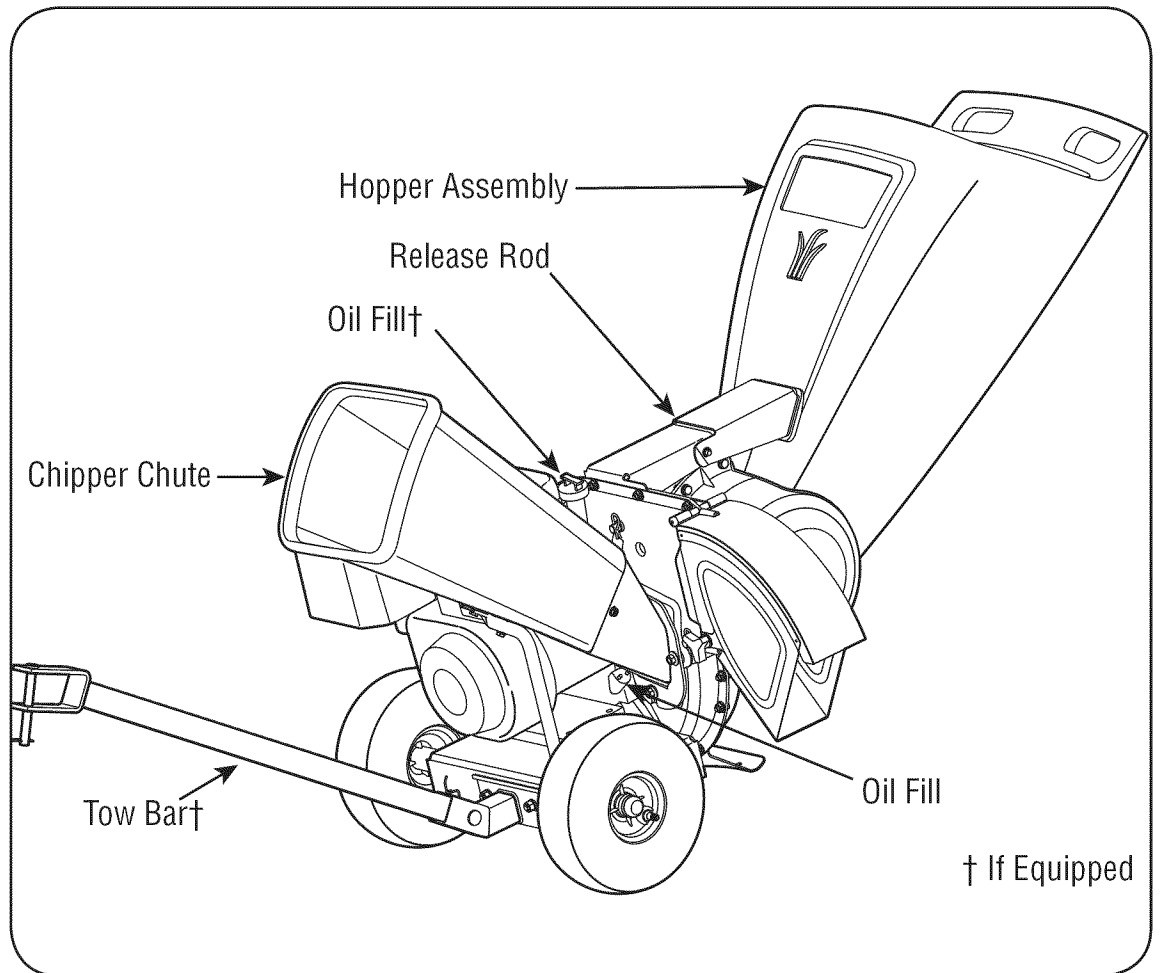

Figure 9
Allows twigs and small branches up to 3" in diameter to be fed into the impeller for chipping. See Figure 9.
Allow leaves and small branches up to 1/2 diameter to be fed into the impeller for chipping and shredding. Material can be raked into hopper assembly by lowering the hopper assembly. See Figure 9.
The release rod is located on the impeller bracket assembly and it is used to release or lock the hopper when raising or lowering. See Figure 9.
Use the tow bar to tow the chipper shredder behind a tractor to a job site. See Figure 9.
1. Check oil level and add oil if necessary. Follow engine manual for this. See Figure 9 above for location of the oil fill.
2. Service the engine with gasoline as instructed in the engine manual. See Figure 9 above for location of gas fill.
2. With the other hand pull out on the release rod and lower the hopper assembly to the ground. See Figure 9.